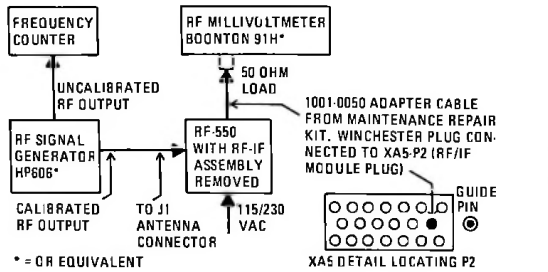

Figure 2. Test Setup for Assembly A2A4
- b. Set up equipment as shown in figure 2.